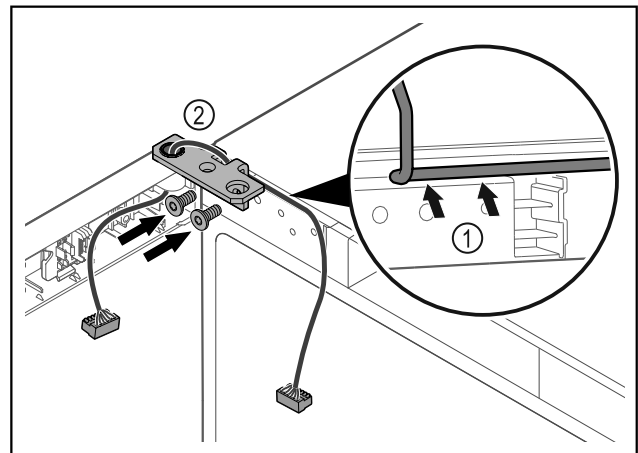

Fig. 62
- Feed the cable through the recess in the hinge and lay it carefully Fig. 62 (1).
- Screw on the hinge Fig. 62 (2).